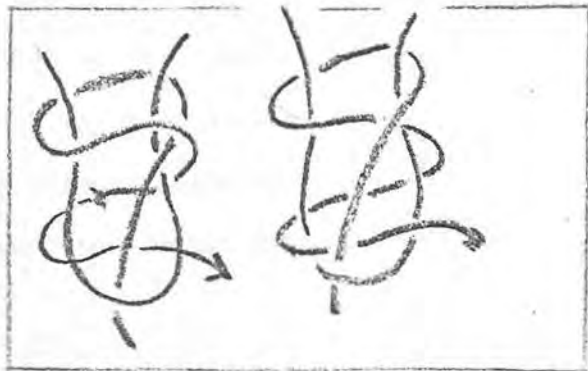

FIG 26. DOUBLE SHEET BEND
(2) Double Sheet Bend: The double sheet bend is used to tie the ends of two ropes of unequal diameter. It can also be used to tie the ends of several ropes to the end of one rope. When two or more ropes are tied to a single rope, the double bends are made with the single rope. (See Figure 26).